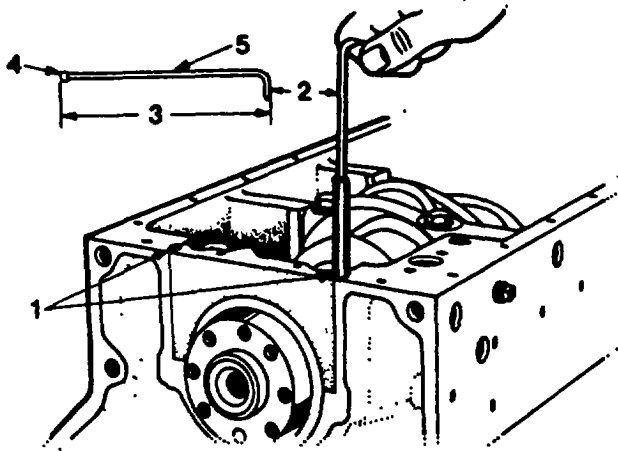

Figure 130. Installing Rear Main Bearing Cap Side Oil Seals
- 12. Install rear main bearing cap side oil seals (Figure 130). Use an installer made from 3.18 mm (1/8") welding rod. To make tool, puddle a ball on end of rod and file ball to approximately 3.97 mm (5/32") diameter. Lubricate seals with a light coat of engine oil.